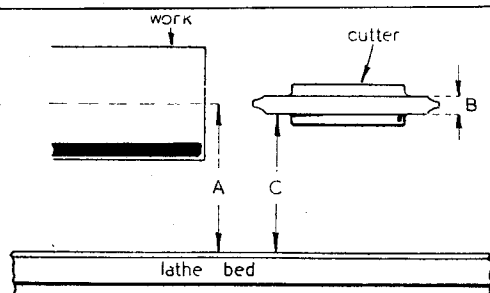

Fig. 3. Centring cutter from lathe bed
When the cutter is mounted vertically, as in Fig. 3, it can be set with reference to the lathe centre height (A) by setting the lower face of the cutter below this height by an amount equal to half the thickness (B) of the cutter. Needless